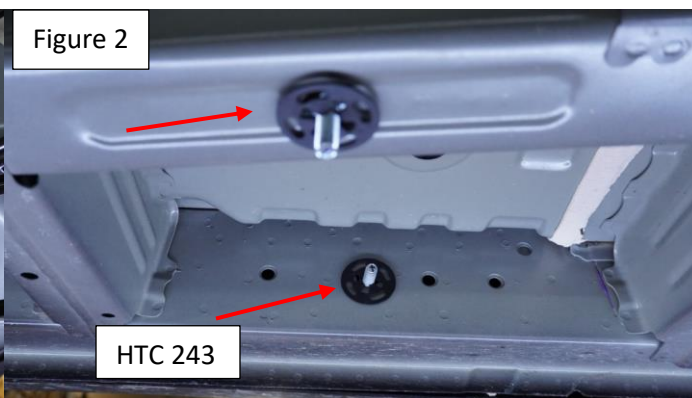

Figure 2
Step 4: Remove factory rubber plug as shown on Figure 2 Install provided HTC 243 as shown